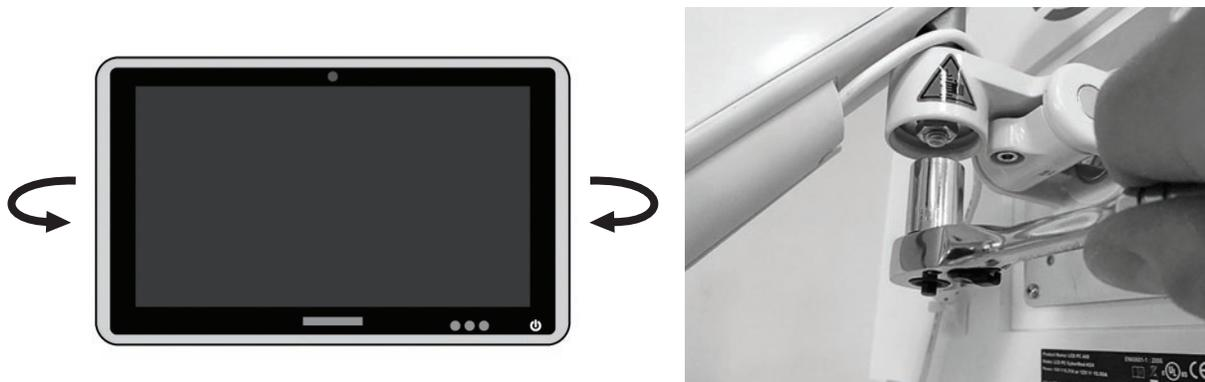

Figure 8: Left/Right Rotational Adjustment
1. To adjust the left and right rotational tension, remove the cap covering the hex nut on the back of the VESA mount, and use a 1/2" socket wrench to adjust the hex nut. See Figure 8.